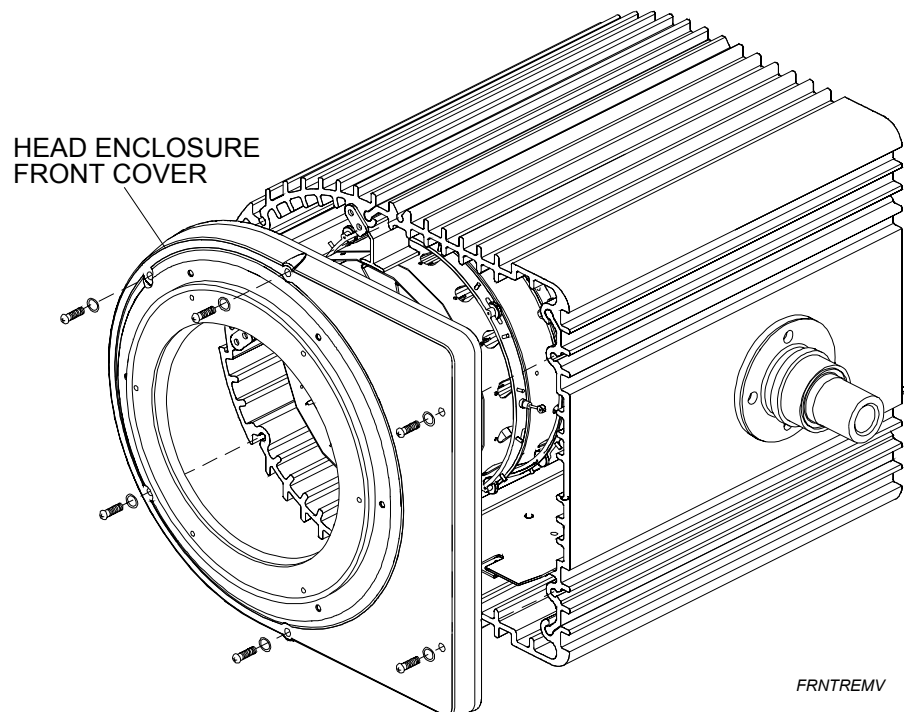

Figure 6.5 - Removing the Front Cover
1. Using #2 Phillips screwdriver, loosen six outer screws and remove head enclosure front cover (Figure 6.5).
1. Using #2 Phillips screwdriver, loosen six outer screws and washers, and remove head enclosure front cover. (See Figure 6.5).